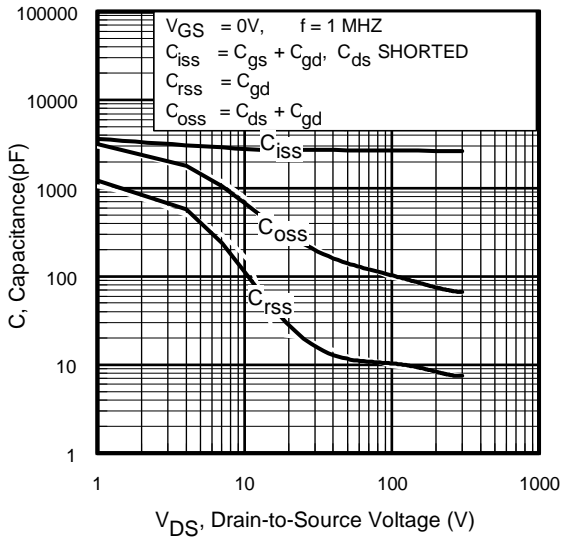

Fig 5. Typical Capacitance vs. Drain-to-Source Voltage
| C_{iss} | Input Capacitance | — | 2720 | — | pF | $V_{GS} = 0V$ $V_{DS} = 25V$ $f = 1.0\text{MHz}$, See Fig. 5 $V_{GS} = 0V, V_{DS} = 0V$ to $480V$ ⑤ |